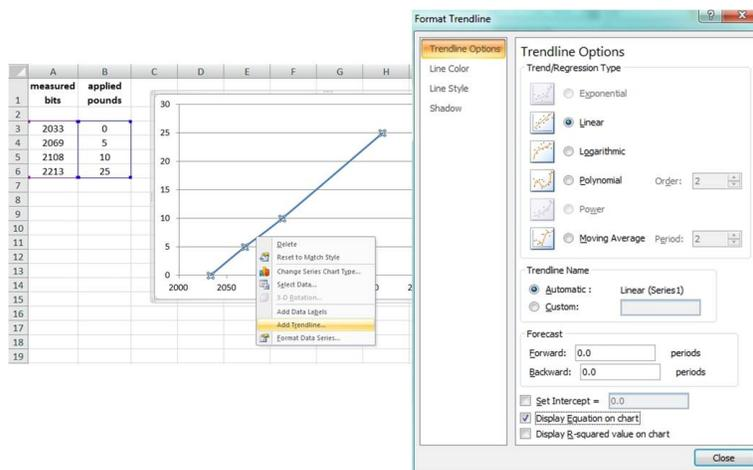

Figure 47 - Plot Trendline
- Designate the line as Linear, and check the option to Display the Equation on the chart (Figure 47 - Plot Trendline).